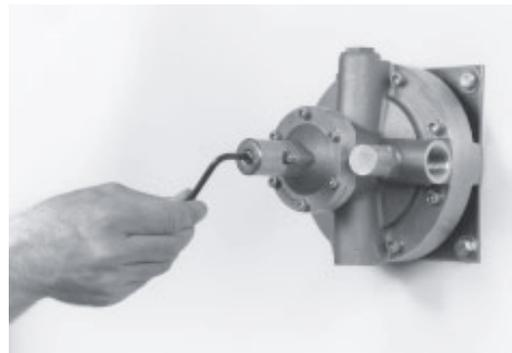

Figure 4.
- Figure 4. Install the locking device and secure the 1/4-20 Hex Socket Head Bolt with the 3/16" Hex Key provided.